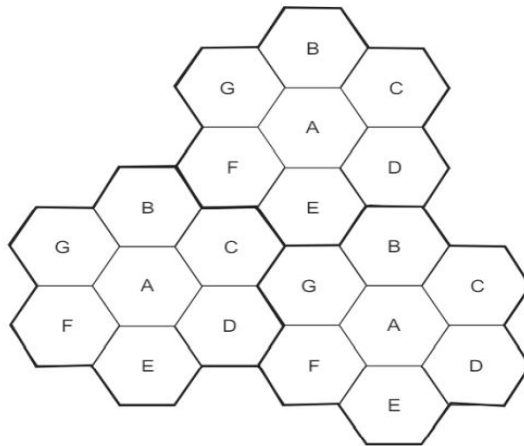

Fig 5.3 Concept of frequency reuse
- Figure 5.3 illustrates the concept of frequency reuse. Cells with the same alphabet use the same channel set. The same set of channels can be reused in another cell provided that the reuse distance D is fulfilled. The reuse distance is the minimum separation of identical channels that have the same carrier frequency, at which there is acceptable interference: